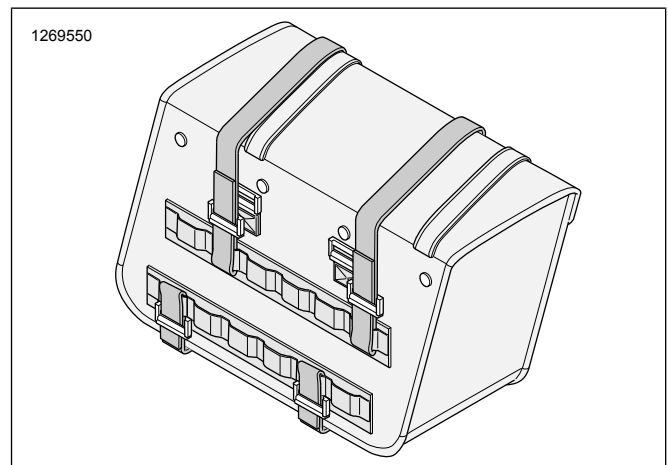

Figure 2. Attach Hook-and-Loop (Typical)
2. See Figure 2. Attach minimum three hook-and-loops to back of saddlebag.